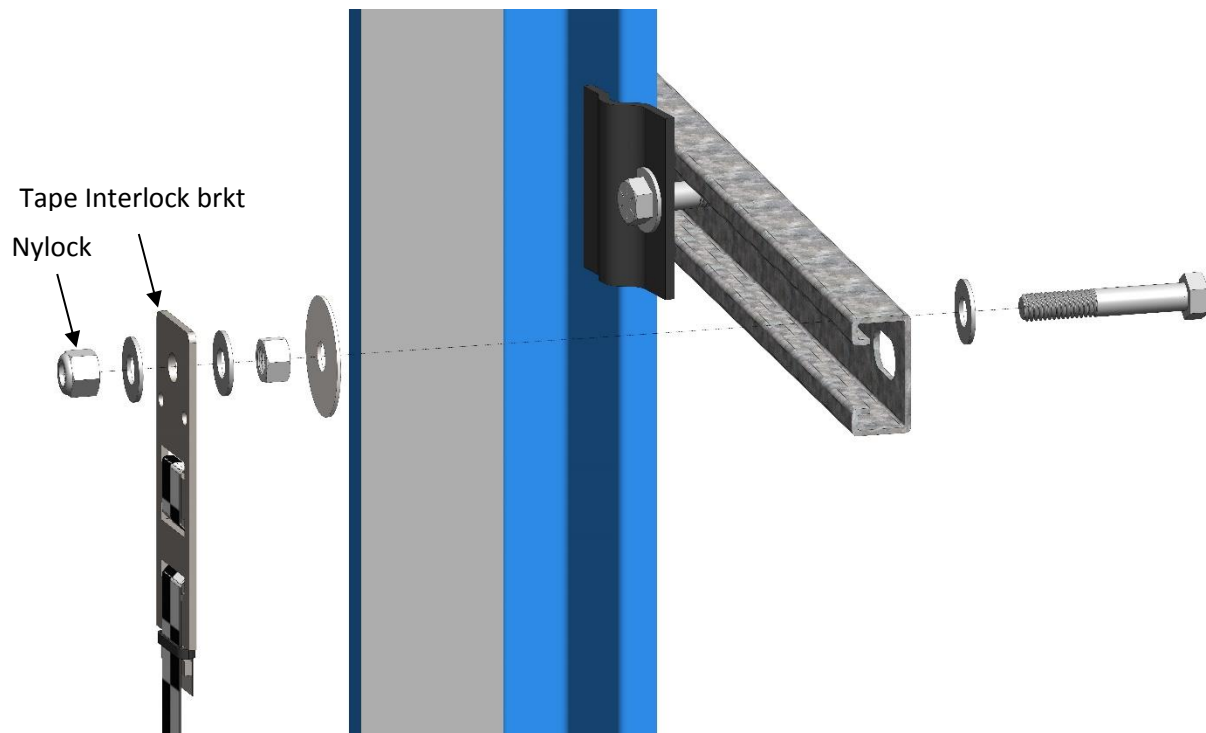

Figure 11: Upper Tape Mounting
- Thread the Nylock nut onto the bolt until there is a .2" gap between the two flat washers that are on either side of the Tape Interlock bracket as shown in figure 11. This gap is required to relieve twist in the tape.